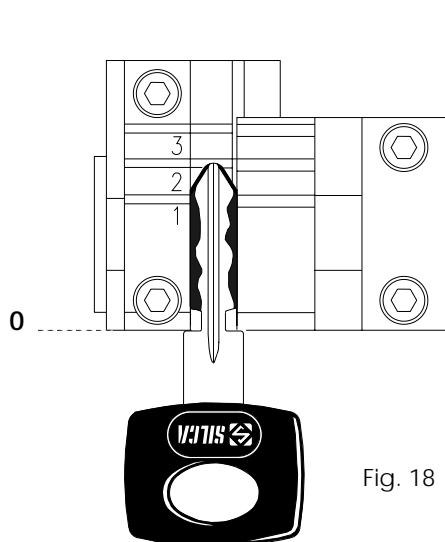

Fig. 18
**0:** for keys with rear stop (see Fig.18).